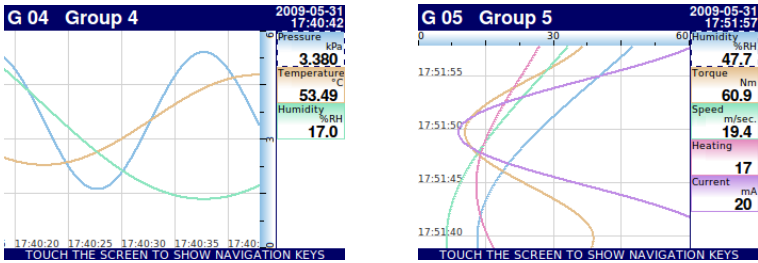

Fig. 6.11. Examples of **Horizontal** (for 3 channels) and **Vertical Charts** (for 5 channels)
During normal operation the **MultiCon CMC-99/141** displays data in a form selected by user, at any time it is possible to switch a presentation mode and group or show the configuration menu. All the details of the user interface are designed to make the use of the device easy and intuitive. To change a display mode, group or to enter the menu, touch the screen of the **MultiCon CMC-99/141** and press an appropriate button in the **Navigation bar** (see **Fig. 6.11**). By touching the screen twice will appear the **Home-Back** menu available only in **SCADALite** display mode (see **Chapter 7.14.5. Groups - SCADALite**).
- as horizontal charts **Fig. 6.11**
- as vertical charts **Fig. 6.11**